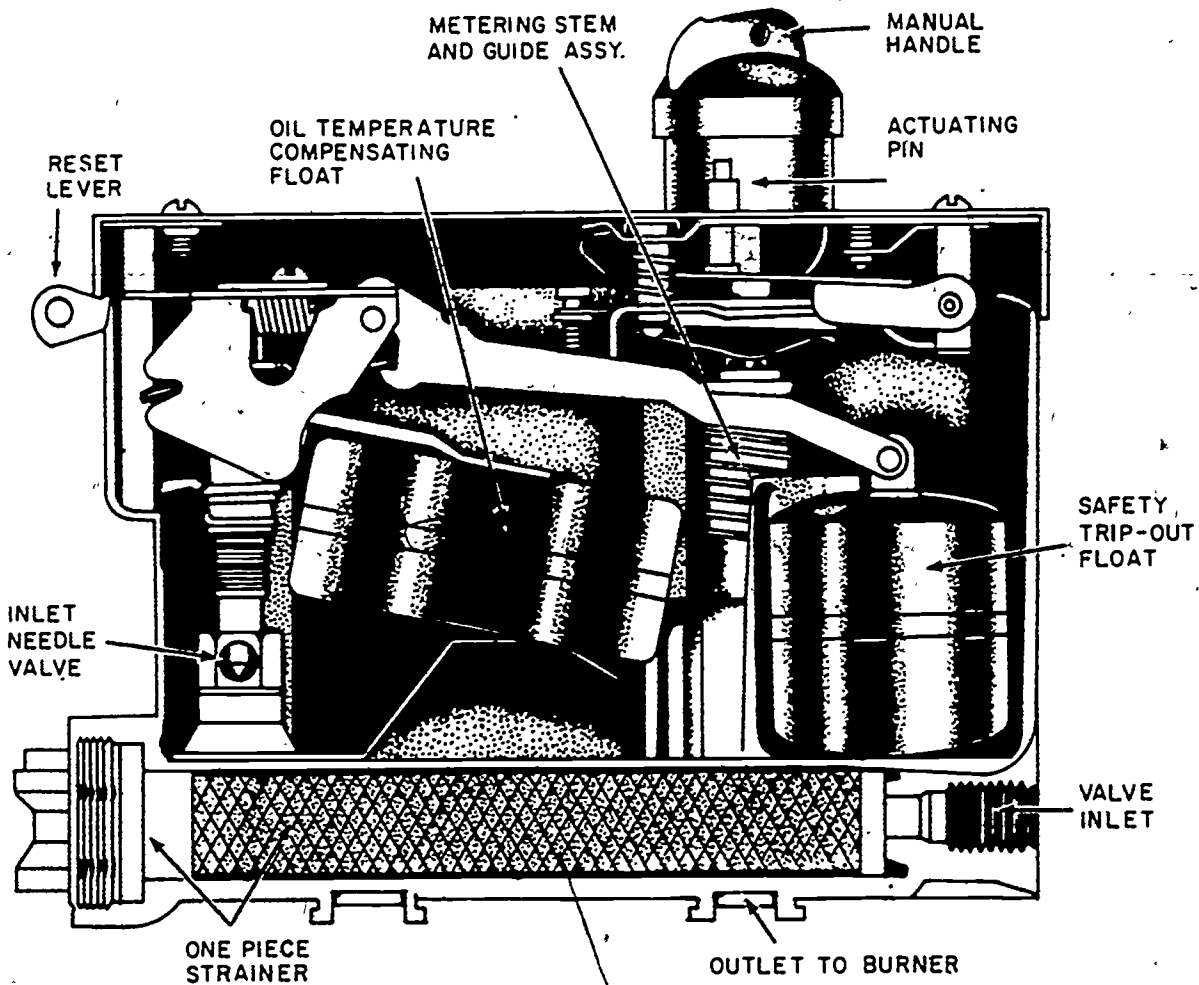

Figure 1-12. Oil control metering valve.
The oil control valve, shown in figure 1-12, is the only control device on the oil-fired space heater. The main purpose of the oil control valve is to meter a precise amount of fuel oil to the burner pot.
The most important part of the oil control valve, even though it has nothing to do with the operation, is the nameplate, mounted on top of the valve by four screws. On this nameplate is the manufacturer's name, operating instructions, and the maximum and minimum flow rates (for calibration purposes) stamped on the plate in cubic centimeters per minute (the measurement used for calibration). This nameplate should be mounted on the valve at all times except when performing maintenance on the valve. Figure 1-12 shows the component parts of an oil control valve.
2. Using figure 1-12, list the component parts of a space heater fuel oil control valve.